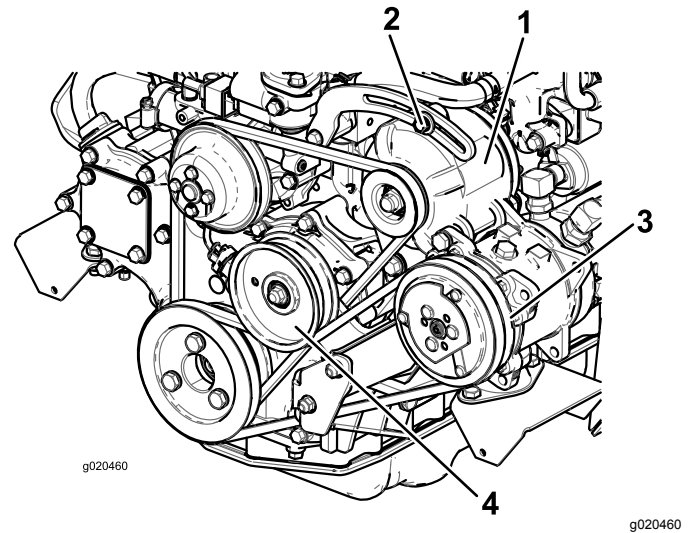

Figure 113
If the deflection is not 10 mm (3/8 inch), loosen the alternator-mounting bolts (Figure 113).
Check the condition and tension of the belt (Figure 113) after every 100 operating hours.
- If the deflection is not 10 mm (3/8 inch), loosen the idler pulley mounting bolt (Figure 113). Increase or decrease the compressor belt tension and tighten the bolt. Check the deflection of the belt again to ensure that the tension is correct.